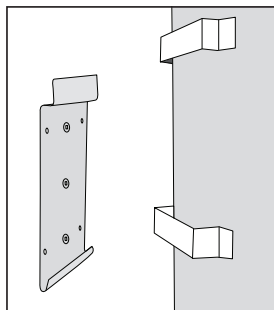

FIGURE 1
4. Secure the collector to the mounting plate (figure 1).